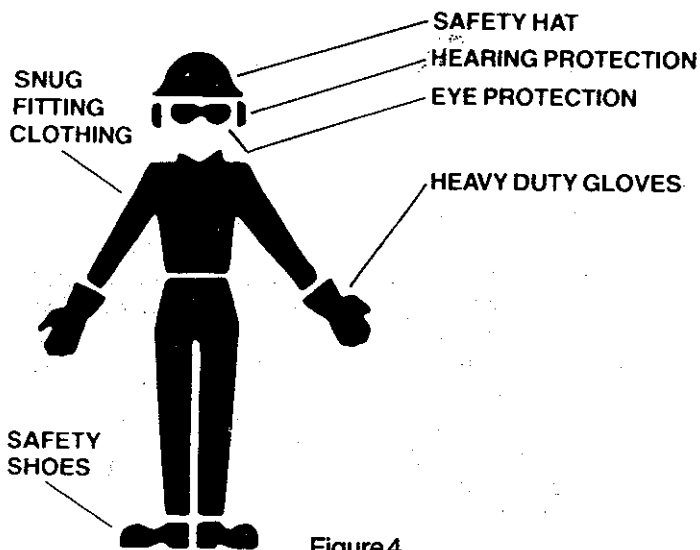

Figure 4
1. Wear personal protective gear. Figure 4. Always use steel-toed safety footwear with non-slip soles; snug-fitting clothing; heavy-duty non-slip gloves; eye protection such as non-fogging, vented goggles or face screen; an approved safety hard hat, and sound barriers — ear plugs or muffs to protect your hearing. Regular users should have hearing checked regularly as chain saw noise can damage hearing.